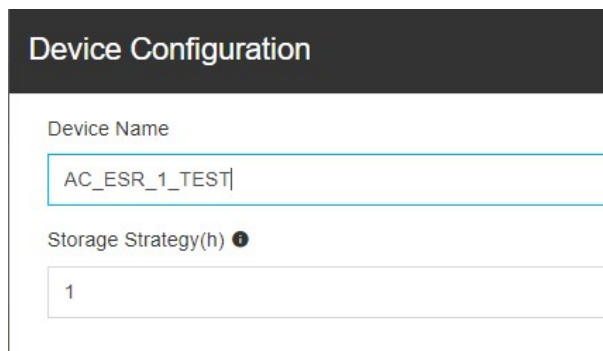

Figure 6-21 Modifying device configuration
4. You can modify **Device Name** and **Storage Strategy**. At this time, the **SAVE** button becomes available (as shown in Figure 6-21). After modification, click **SAVE**.